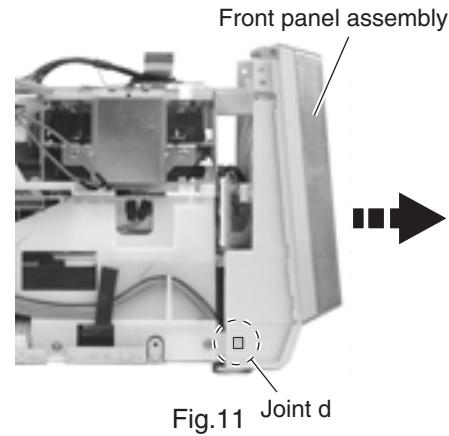

Fig.11 Joint d
■ Removing the front panel assembly (See Fig.11 and 12)